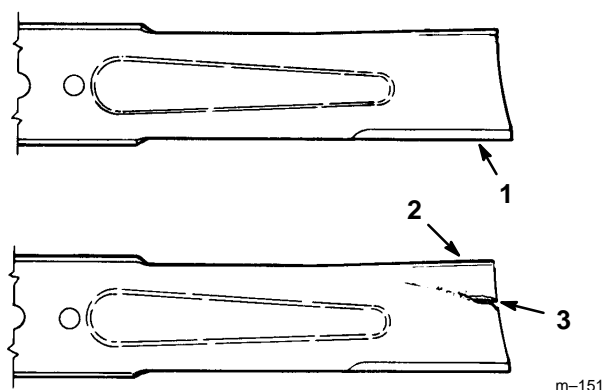

Figure 32
2. Inspect the cutting edges (Fig. 32). If the edges are not sharp or have nicks, remove the blade(s) and sharpen them; refer to Sharpening the Blade(s), page 34.
3. Inspect the blade(s), especially the curved area (Fig. 32). If you notice any damage, wear, or a slot forming in this area (Fig. 32), immediately install a new blade.